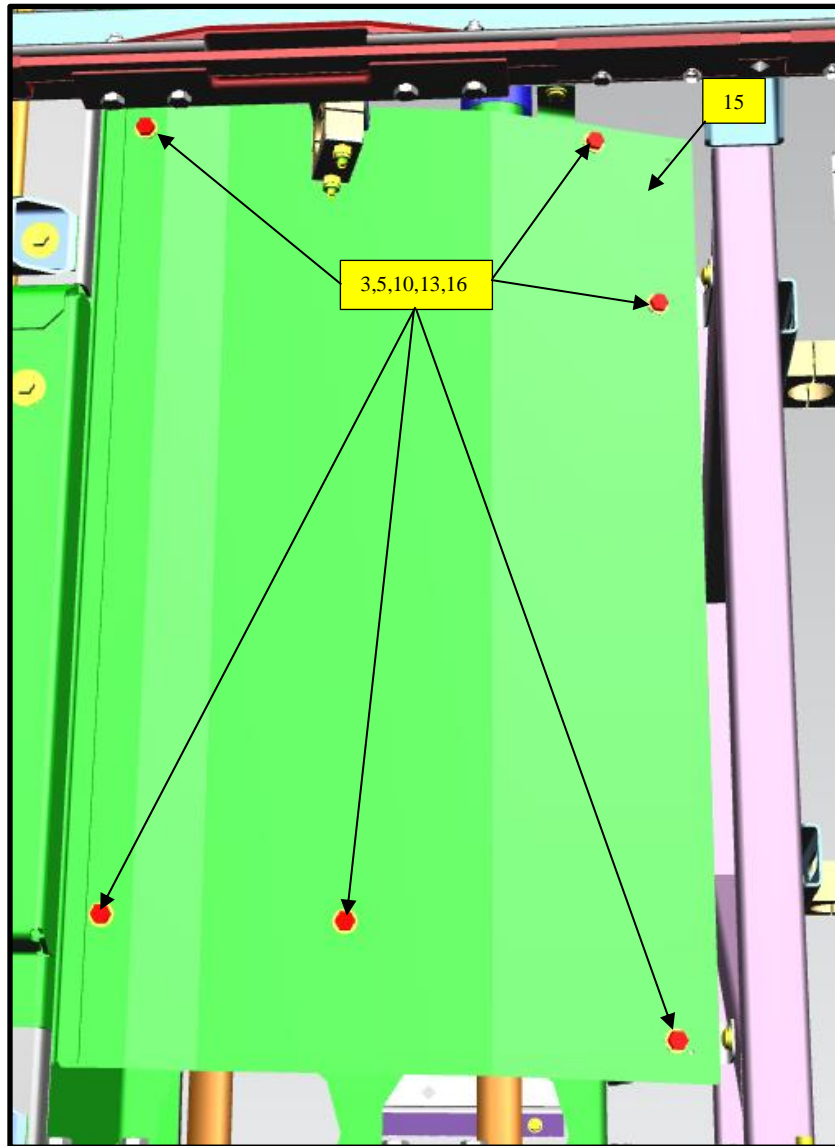

Figure 8: Forward secondary cover mounting location reference.
20. Install item #15 Secondary cover using items #16 Bolt, #3 Washer, #13 Nut, #10 Never Seize and apply 1 or 2 drops of Loctite #5 See Figure 8.